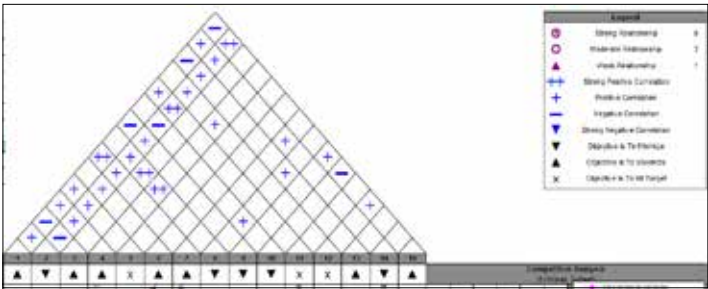

Figure 3: House of Quality (HoQ) Functional Requirements Correlation table
CFM speed is listed as a functional requirement and can be associated with item 1 as a strong relationship providing a method or “How” for that requirement. Also, important here, is identifying the direction of improvement in the bar above the functional requirements. These indicators identify whether maximizing, minimizing, or hitting a specific target is desired for each functional requirement. Using the same case above, maximizing the CFM speed will decrease pump down time so the maximize character is selected. The roof area of the HoQ, Figure 3, provides a table to identify correlations between the functional requirements. The functional requirements are compared and correlation values assigned to pairs of requirements in order to establish a hierarchy of how each requirement may influence another. The correlation ratings are described in the legend. No correlation